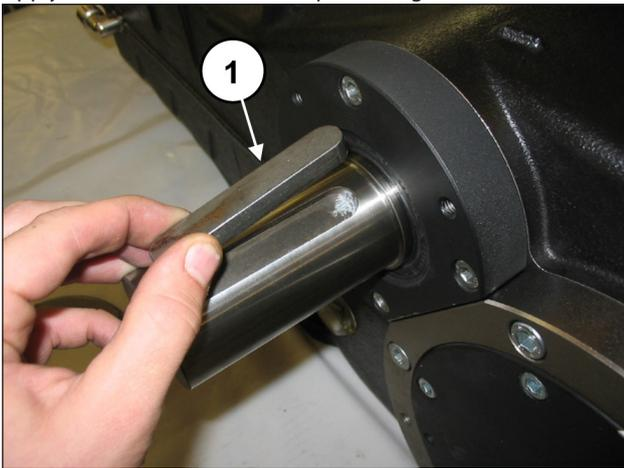

Fig. 102
Apply the tab to the PTO shaft (pos. ①, Fig. 102).